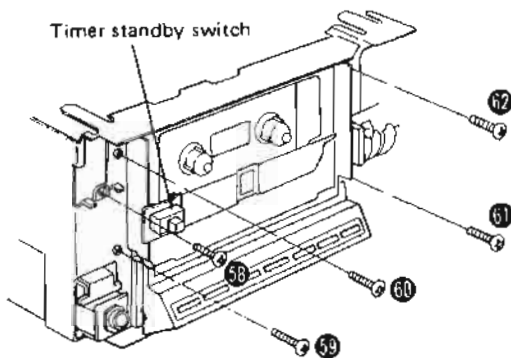

Fig. 12
5. Remove the timer standby switch printed circuit board setscrew (Fig. 12 : 58) . Next, remove the 4 setscrews (Fig. 12 : 59 ~ 62) of the cassette deck.